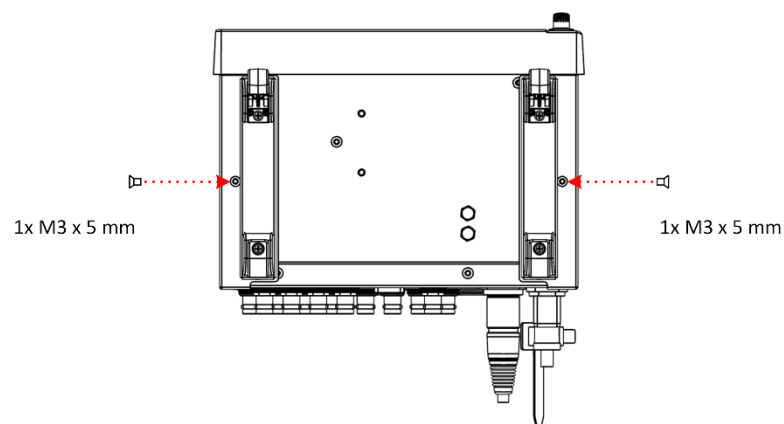

Figure 6: Unit and Carrycase Assembled
- 3 Insert two M3 x 5 screws into the two countersunk holes in the bottom of the unit. See Figure 6, Bottom View.
- 4 Insert two M4 x 6 screws into each side, to secure the rear of the carrycase to the rear panel of the unit. See Figure 6, Rear View.